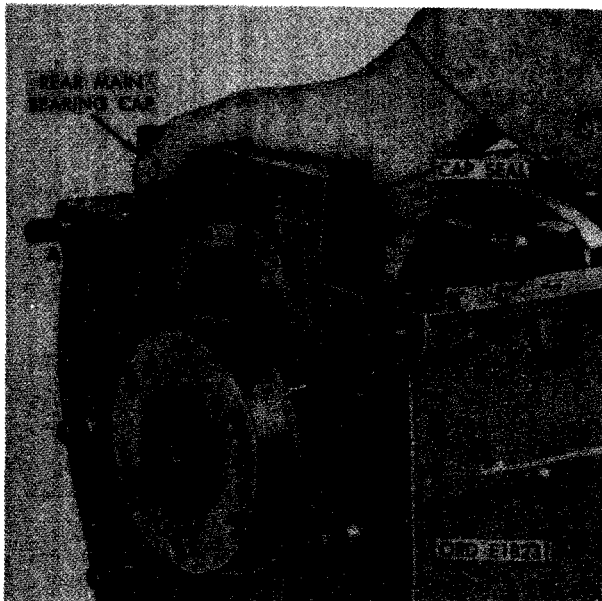

FIGURE 305. REMOVING OR INSTALLING REAR MAIN BEARING CAP AND CAP SEALS.
- (2) Figure 305. (A) Remove rear main bearing cap and lower bearing half.